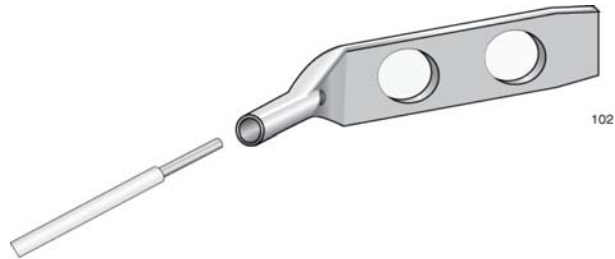

Figure 42. Attaching the Grounding Wire to the Grounding Lug
3. Insert one end of the grounding wire into the grounding lug, as shown in Figure 42, and use a crimping tool to secure the wire to the grounding lug.